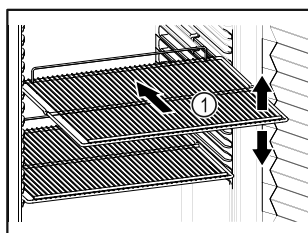

Fig. 82 Example illustration
- ❑ If storage surfaces Fig. 82 (1) are movable, adjust them according to height.